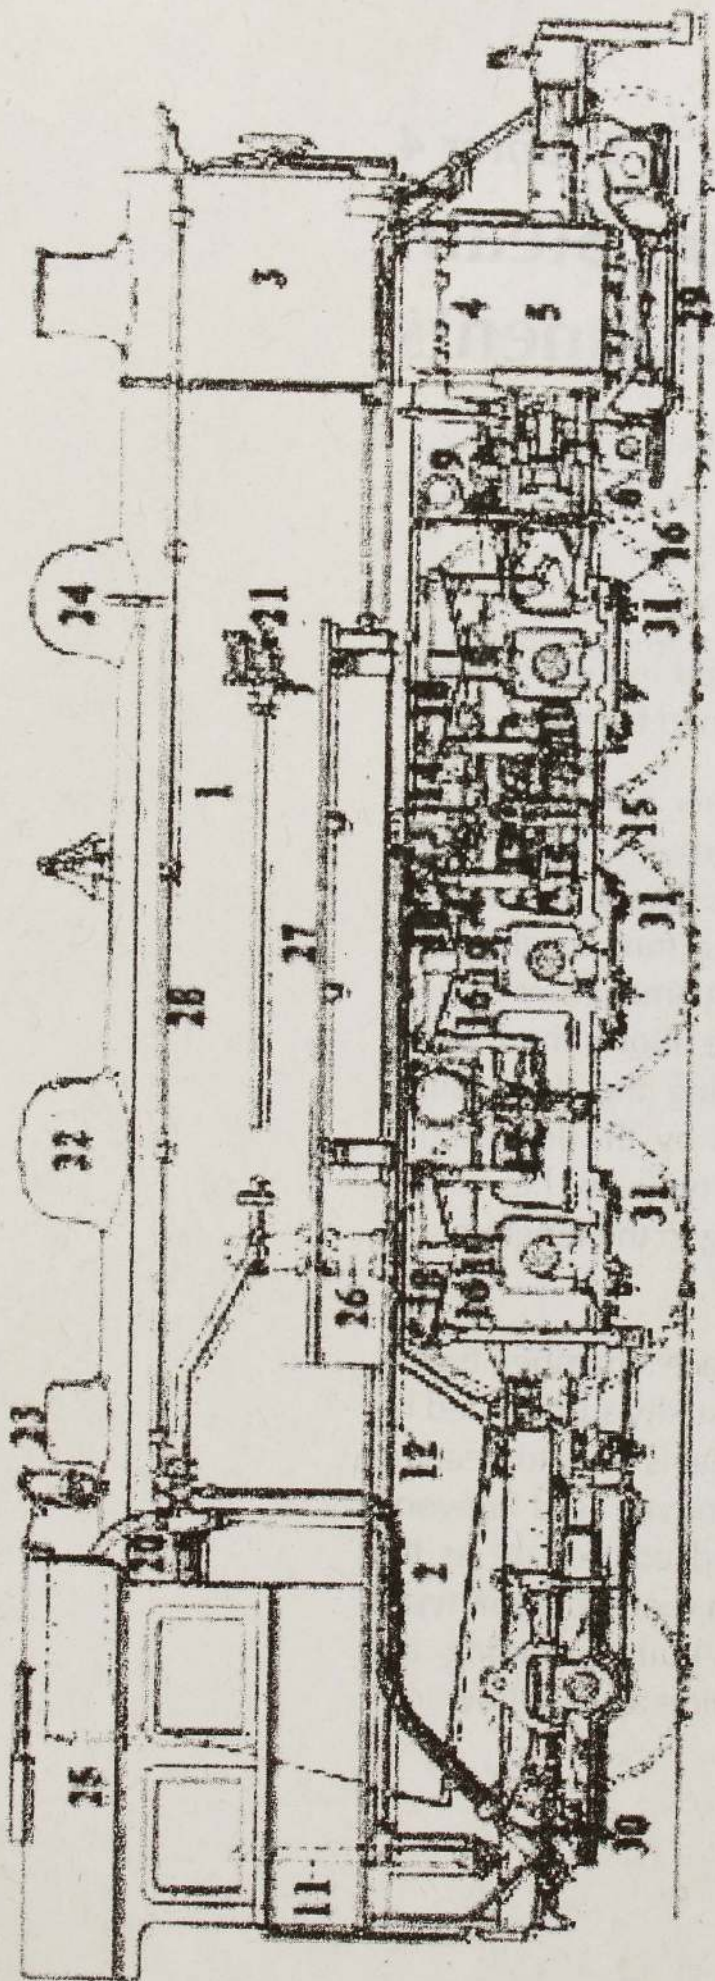

Fig. 35
*The* components that are numbered in the figures 35 and 36 in page 50 are explained below;
12. **Valve gear**- A system of rods and other linkages that synchronize the valves with the pistons and controls the direction and power output of the locomotive. The illustrated engines in figures 35 and 36 have inside connected Stephenson valve gear, although most parts are not visible in the illustrations.